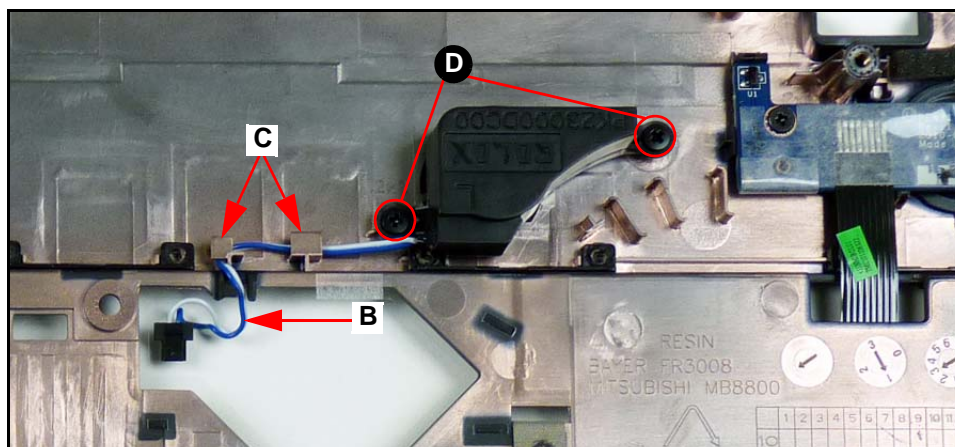

Figure 3-21. Speaker
2. Remove speaker cable (B) from cable guides (C). (Figure 3-21)
3. Remove two (2) screws (D) from upper cover. (Figure 3-21)
2. Install and secure two (2) screws (D). (Figure 3-21)
3. Install speaker cable (B) into cable guides (C). (Figure 3-21)